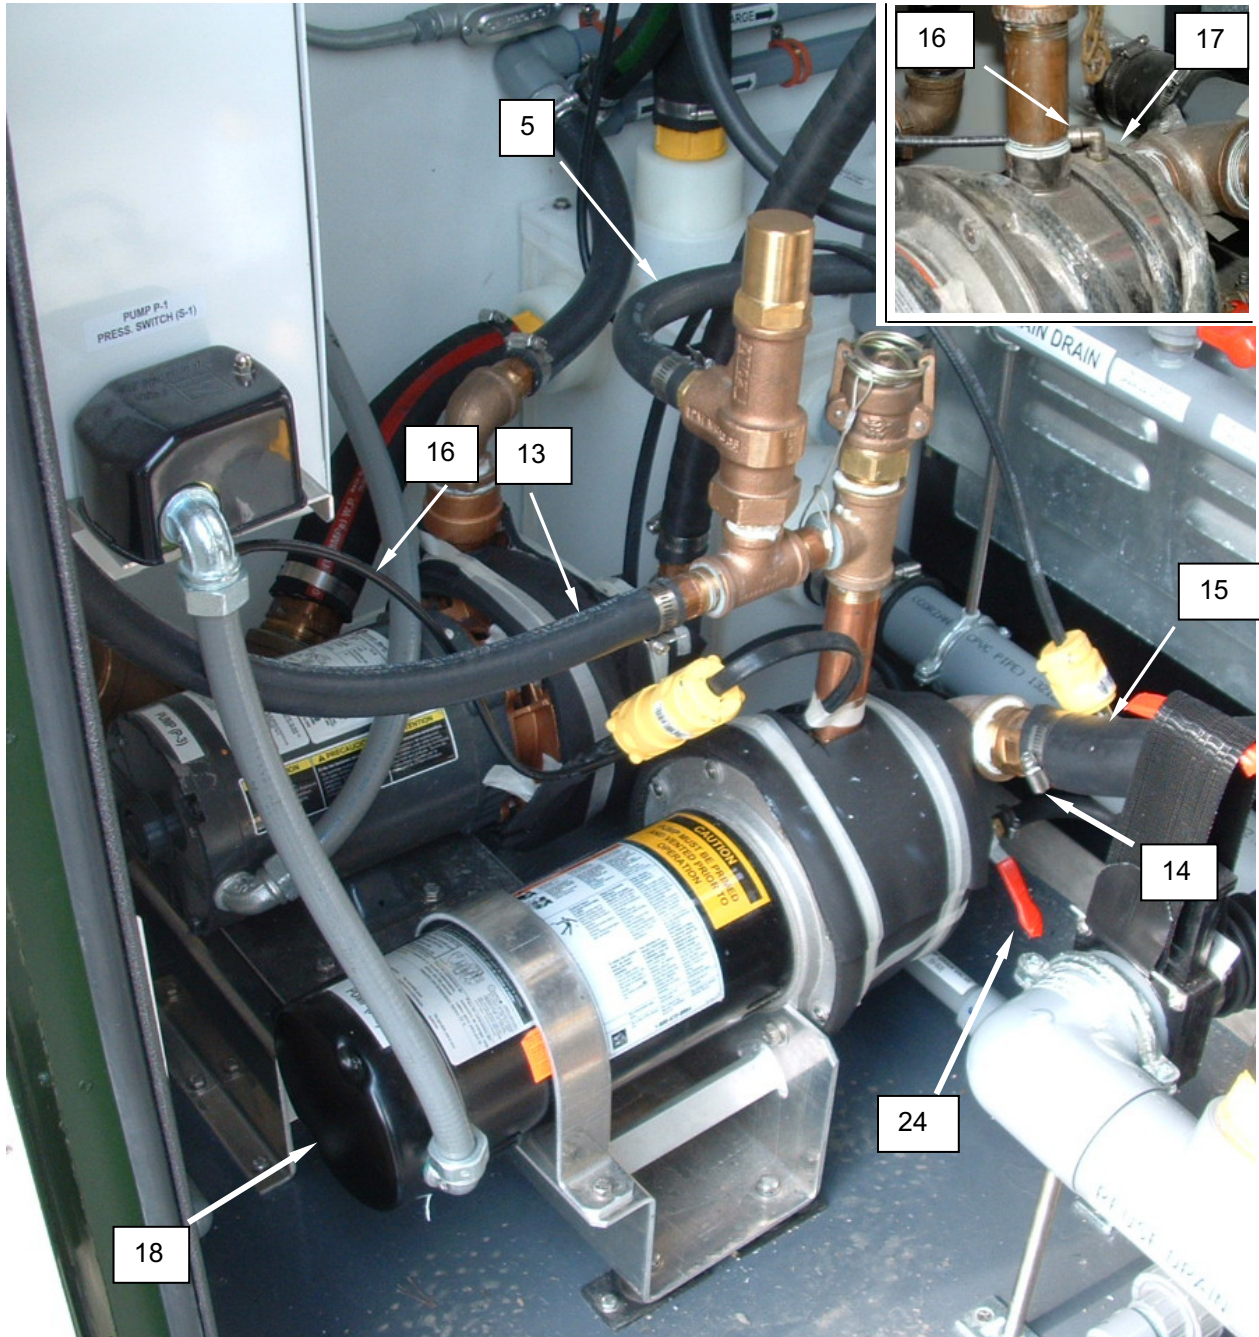

Figure 12. Replace the Pump Motor.
2. Open P-1 pump drain valve (**Figure 12, Item 24**) and allow pump to drain
4. Loosen hose clamp retaining discharge hose (**Figure 12, Item 13**), and remove hose.
5. Loosen hose clamp retaining pressure relief valve hose (**Figure 12, Item 5**), and remove hose.
6. Loosen hose clamp retaining drain hose (**Figure 12, Item 14**), and remove hose.
7. Loosen hose clamp retaining pump suction hose (**Figure 12, Item 15**), and remove hose.
8. Loosen compression nut retaining pressure switch tubing (**Figure 12, Item 16**) to pump casing (**Figure 12, Item 17**), and remove tubing.
9. Remove the screws retaining the pump end cover (**Figure 12, Item 18**), and remove the pump end cover.